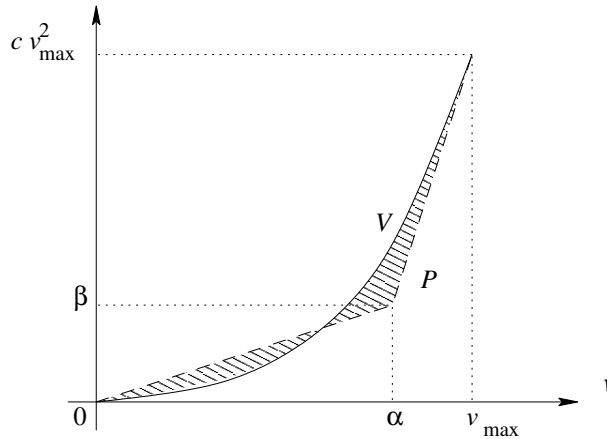

Figure 2: The quadratic function V and its PWA approximation P .
Step 2: Construct a piecewise affine (PWA) approximation P with 2 regions of the friction force curve $V : [0, v_{\max}] \rightarrow \mathbb{R} : v \mapsto v^2$ as follows. We want a perfect match for $v = 0$ and $v = v_{\max}$. This implies that we still have two degrees of freedom, i.e., the coordinates (α, β) of the middle edge point of the PWA curve (see Figure 2). Now determine α and β such that the *square* of the area between V and P (i.e., the hashed region in Figure 2) is minimized.